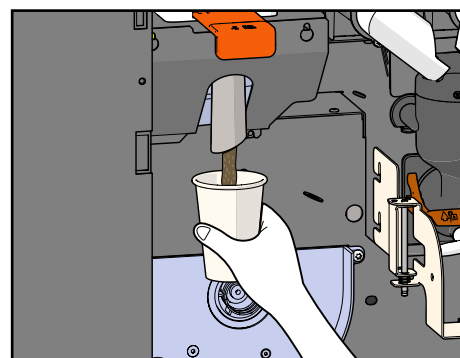

Figure 13.
5. Place a small container or large cup underneath the grinder outlet (see Figure 13) and press the scale button to start the grinder. Repeat this twice.